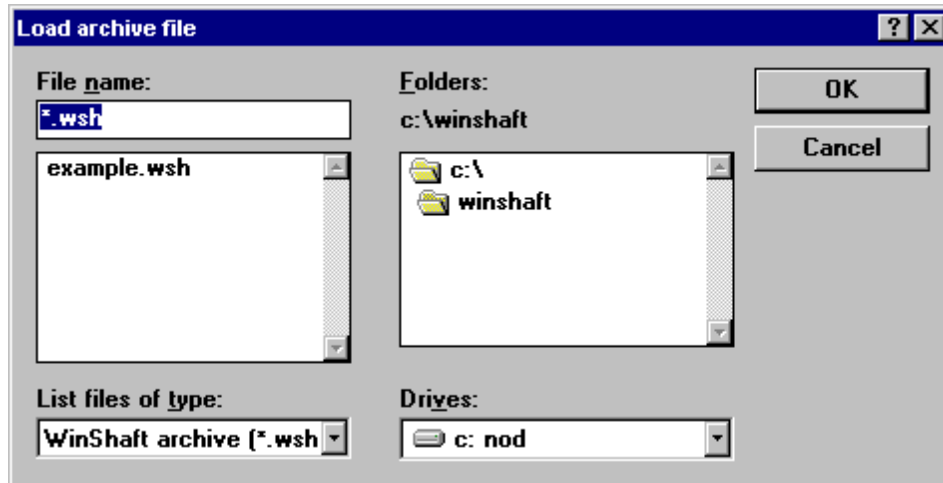

Fig 3.3 *Load archive file* Dialog box.
**File | Load** command lets you load previously created archive file. As a response to this command the standard dialog box, used in Microsoft Windows for file opening appears on the screen (see fig. 3.3). In this dialog box you should choose archive file you want to load.
With **File | Save** command you can create archive files in which initial data and calculation results will be saved. Later you can load this file and continue your work with object, stored in this file. After choosing this command, the dialog box where you should enter archive file name (fig. 3.3) appears on the screen.